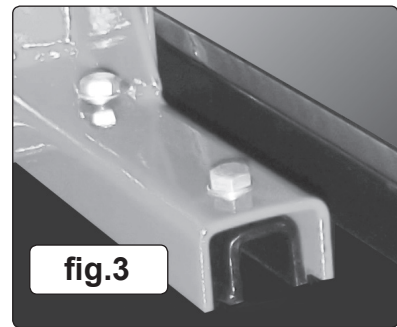

fig.3
- 4.3. Fasten the leg/bracket assemblies to the channels welded to the underside of the bench top (fig.3).